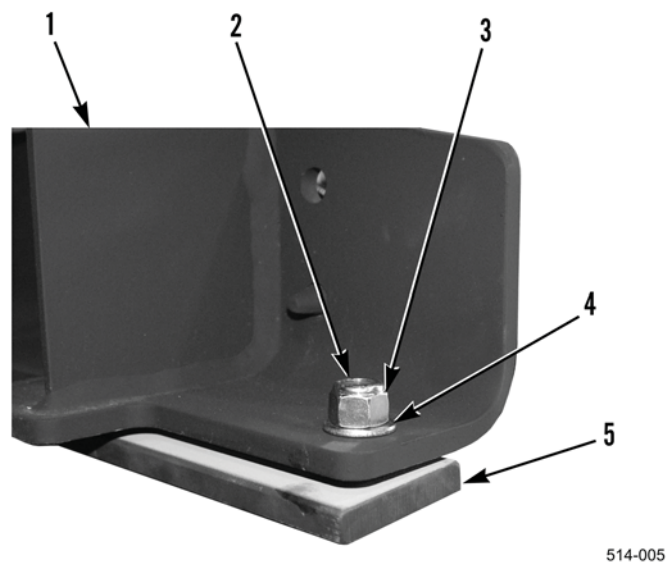

Figure 15. PLS Spacers.
1. Install two spacers (Figure 15, Item 5), four bolts (Figure 15, Item 2), washers (Figure 15, Item 4), and new locknuts (Figure 15, Item 3) on stowage assembly (Figure 15, Item 1).